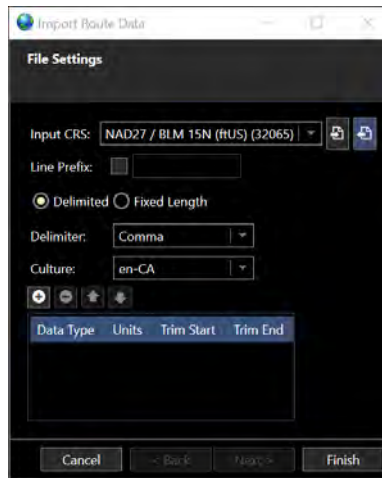

FIGURE 9-18 IMPORT ROUTE DATA - FILE SETTINGS
4. The Import Route Data wizard is launched on the first page, File Settings (see Figure 9-18)